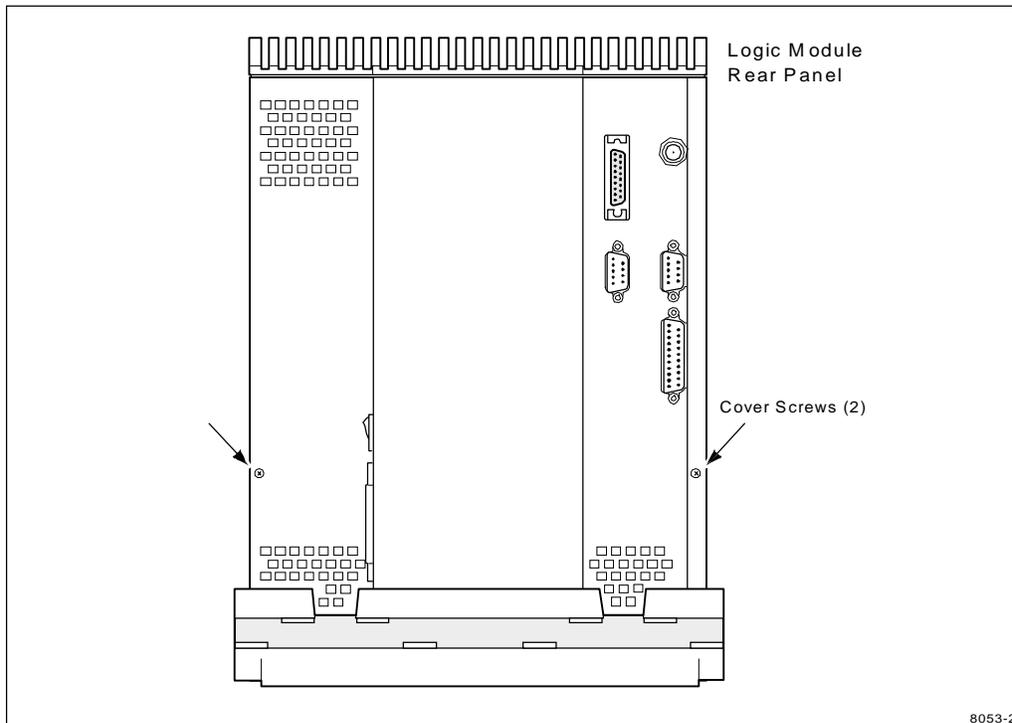

Figure 2. Removing the Tower Logic Module Cover
1. Remove the logic module cover. First remove the two screws that fasten the cover to the chassis (see Figure 2), then grasp the cover by its sides and carefully lift it straight up. Be careful not to drag the cover across the circuit boards.